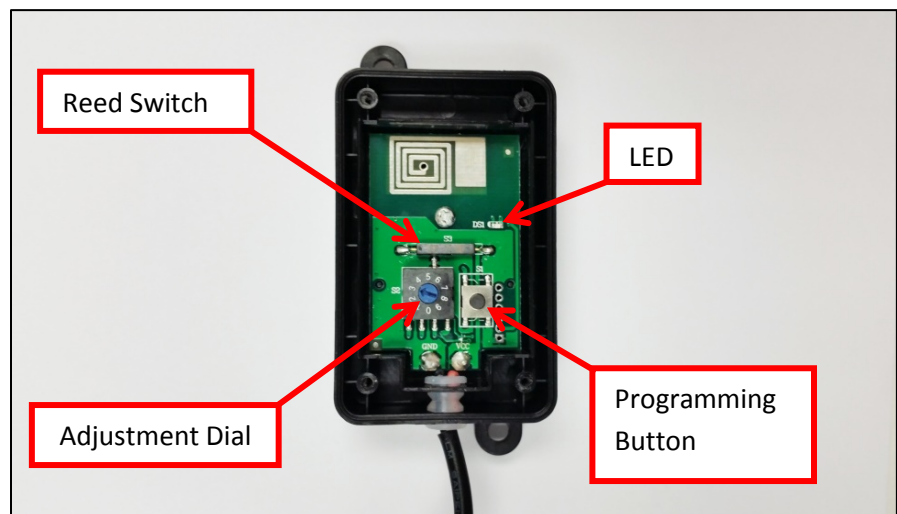

Fig.4
- a. Set the Adjustment Dial to level 5. (See Fig.4).
- f. Press the programming button on the GC779G Motion sensor (See Fig.4). Both the Purple LED on the Motion sensor and the green LED on the Motor controller will flash once and extinguish. This completes the programming sequence.